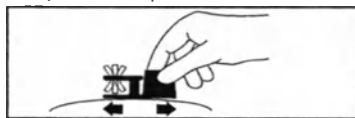

FIGURE 7
- Following the direction of the arrow on the device, slowly move the base of the MAGNA-FINDER® back and forth over the tissue surface, as shown in Figure 7. The magnet of the MAGNA-FINDER® will indicate the location of the injection site on one plane.